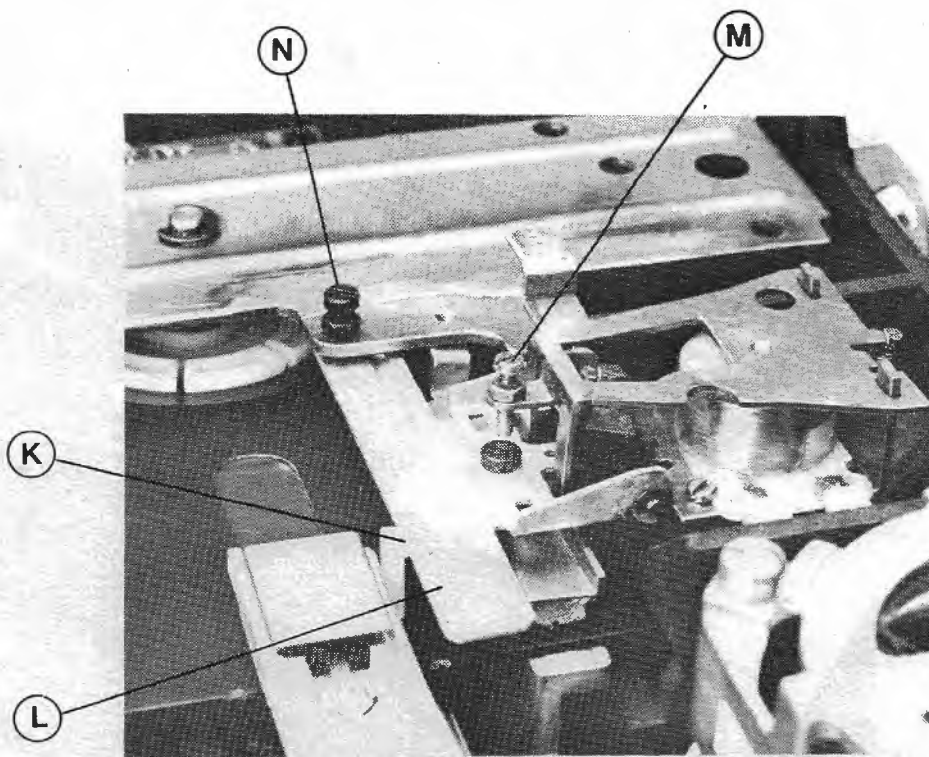

Fig. 22. FD 801/FD 802 - Head Load E.M. Regulation
- a) Activate the electromagnet and verify that between the tab on the head (see "K", Fig. 22) and the tab of the electromagnet (see "L", Fig. 22) there is a distance of  $0.4 \text{ mm} + 100 \mu\text{m}$ . To obtain this distance, turn the appropriate screws (see "M", Fig. 22). The distance must remain constant from Track 0 to track 76.